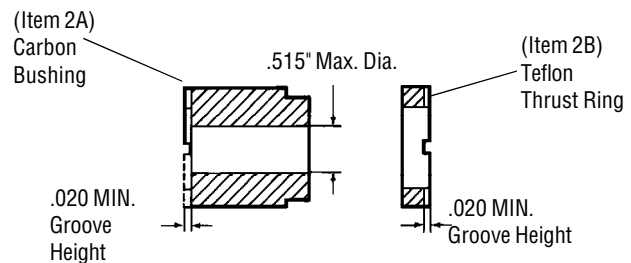

Figure 4
- Check impeller drive bushing (item 2A), thrust ring (item 2B), ceramic thrust rings and shaft for cracks, chips, scoring or excess wear (See Figure 4). Replace as required.